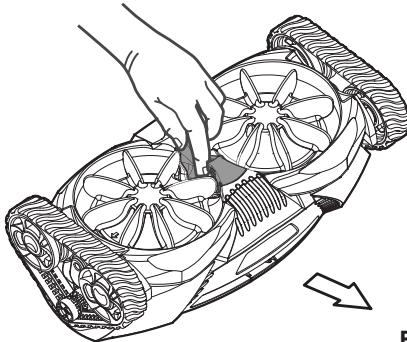

Figure 10
1. Grasp the yellow inlet adapter and insert a finger into the adapter hole (Figure 10).